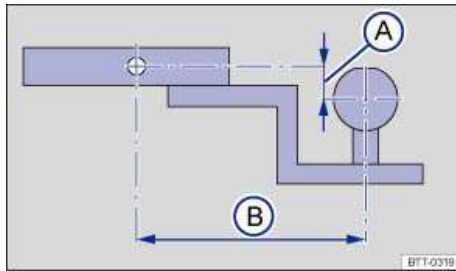

Fig. 103 Dimensions of the ball mount support.
⇒ fig. 103 (A), and the pin-to-ball distance (B).